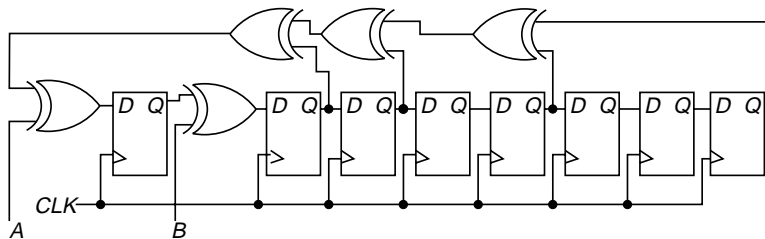

Figure 15.49: MISR for Problem 15.6.
- 15.6 *MISRs.* Figure 15.49 shows a multiple-input signature register of the STANDARD (external XOR) type. This MISR takes outputs from the circuit, labeled as A and B , and compacts their responses. Please convert this signature register into the equivalent MODULAR (internal XOR) type and draw this equivalent signature register. Although the equations representing these two response compacters are the same, the signatures will be different, so explain the relationship between the two signatures.